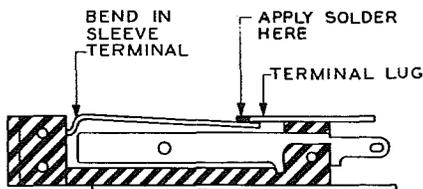

Fig. 11 - Side View of the 229-type Jack
3.20 On 229-type Jacks: To replace the springs, raise the clamping strip with the 3" cabinet screwdriver and insert the springs in their slots, one at a time. Then remove the screwdriver and replace the assembly mounting screws in the two jacks on each side of the jack being worked on. Bend the sleeve terminal down into position with the long-nose pliers, at the same time making the bend resemble that in Fig. 11. When the sleeve terminal is in position, line up the terminal lug with the screw hole, making the inside tip rest on top of the sleeve terminal. Replace the screw and solder the terminal lug to the new sleeve terminal, making sure that there are no drops of solder left in the jack.